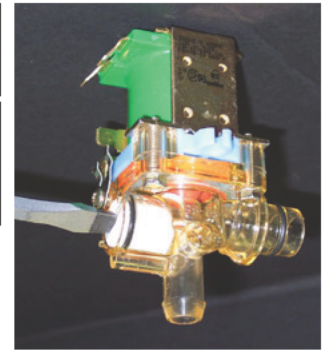

Figure 1 Adjustment
1. Loosen the screw on the metal guard. Rotate away from the adjustment screw (fig. 1.).